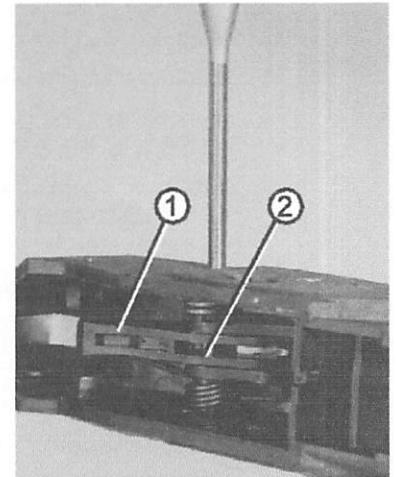
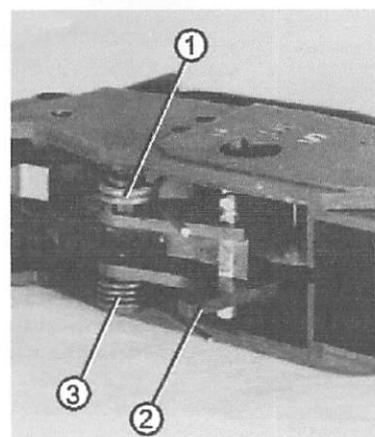

Fig. 61 Replace sear and compression spring
Fig. 63 Replace trigger and/or trigger springs
- ⇒ Depress the sear (Fig. 61/1) and trigger and, from the right, push out the cylindrical pin (Fig. 61/2) with the drift punch until the sear is free.
- ⇒ Push trigger (Fig. 63/2) downwards against the tension of the trigger springs (Fig. 63/1 and 3) and withdraw cylindrical pin (Fig. 61/2) fully to the right.